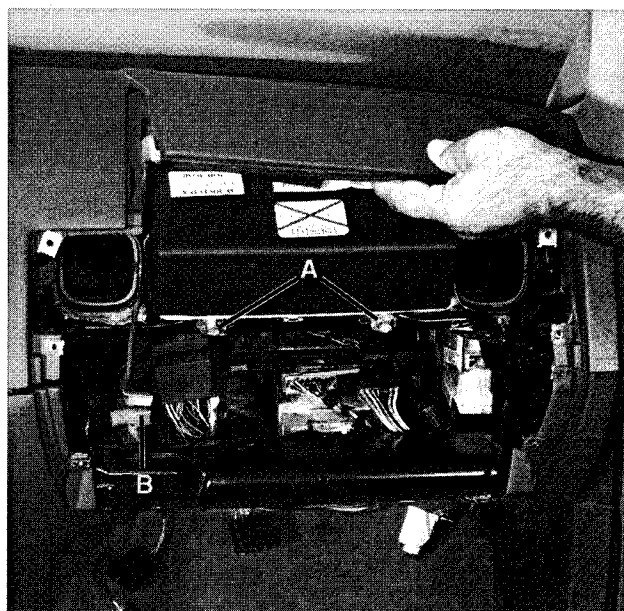

Fig. 11. After removing glove compartment, lift out passenger side airbag cover. Note airbag mounting bolts (A) and airbag electrical connector (B).
3. Lift cover from top of passenger side airbag on dashboard. See Fig. 11.